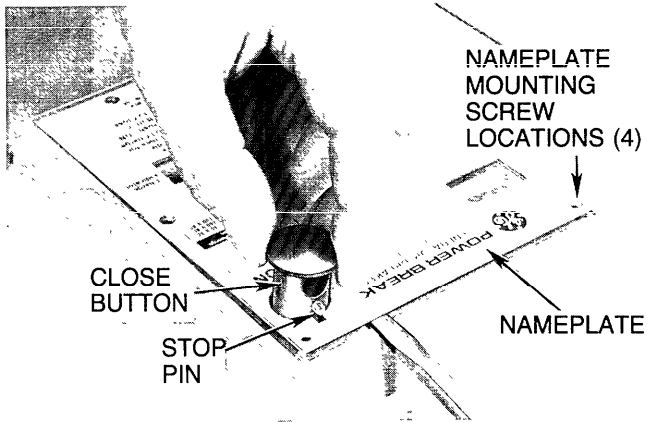

Figure 4.
1. Remove and save (4) nameplate mounting screws. (Figures 4 and 5 show screws removed).
3. To remove close button supplied, rotate close button approximately 90° clockwise so stop pin passes thru notch in nameplate. (Figure 4).